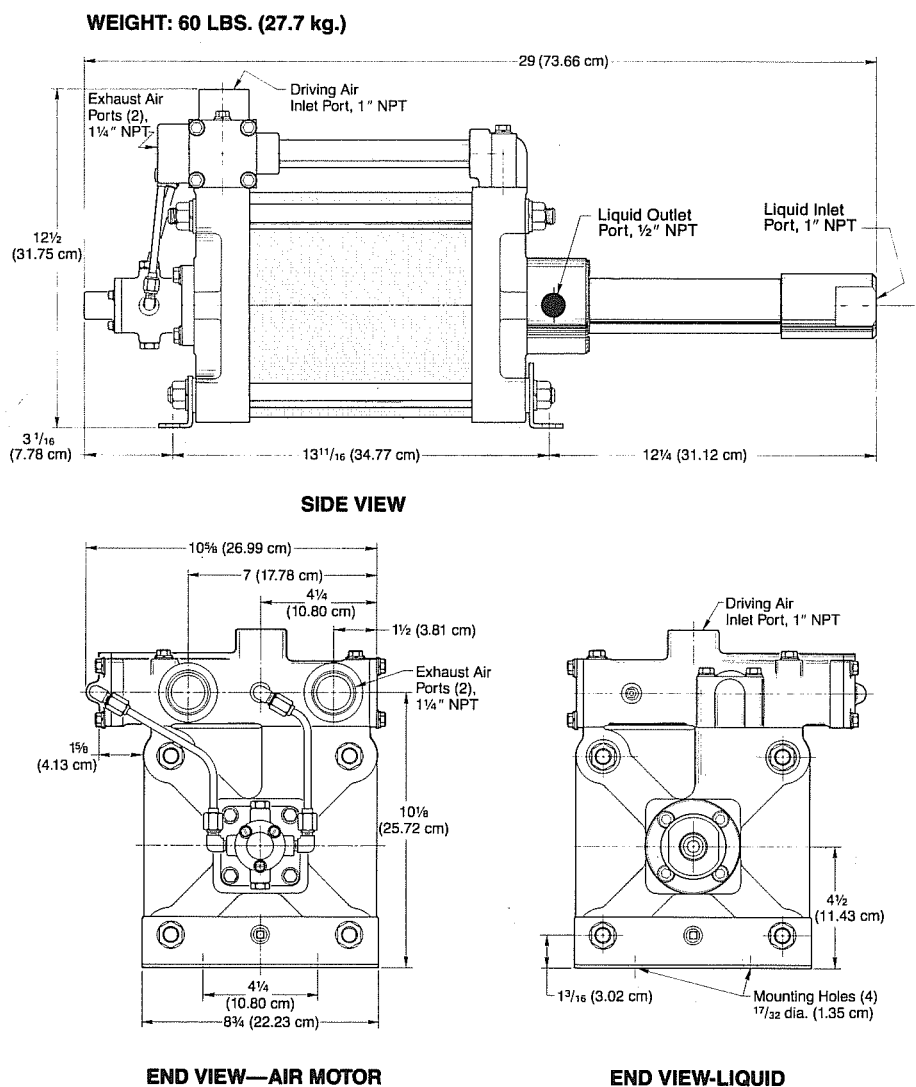

Figure 1-1, Pump installation and clearance dimensions.
- 1.3 MOUNTING—Two $\frac{17}{32}$ dia. mounting holes are provided in each of the two mounting brackets on the underside of the pump's air motor for attachment to a base plate or platform. See Figure 1-1 for installation and clearance dimensions.